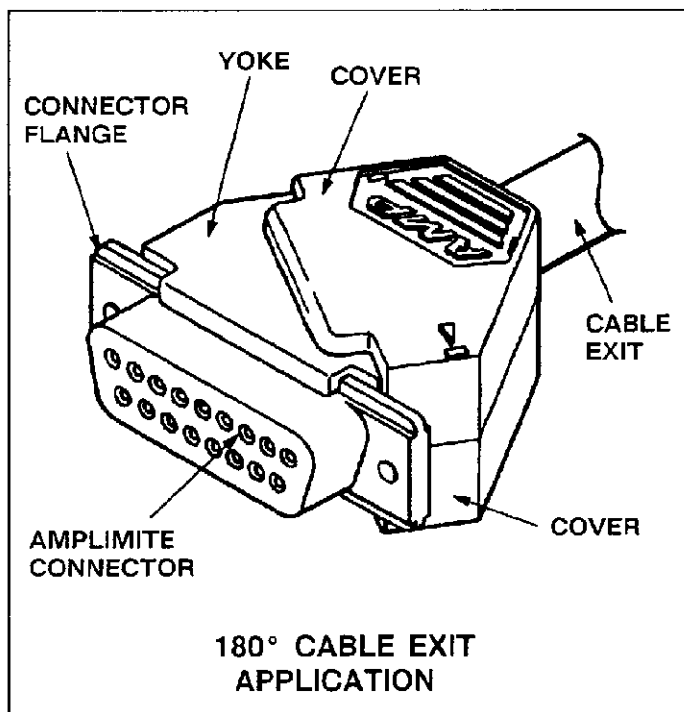

Fig. 2
4. Depending on the cable-exit orientation you desire (straight or right angle), lay the yoke and connector assembly in the cover. See Figures 2 and 3.